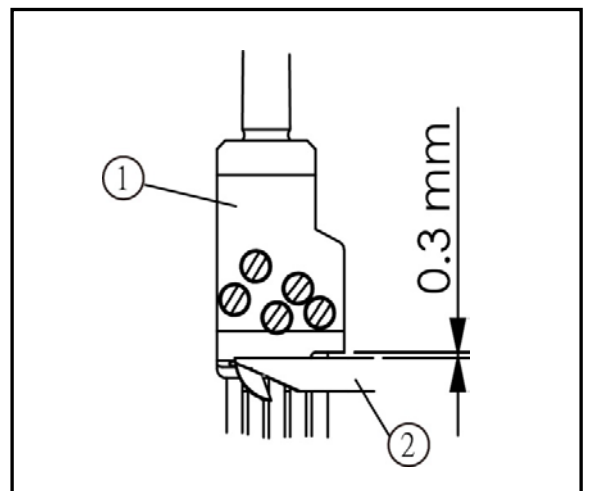

Fig. 9
2. Make sure to keep a clearance between the notch of the needle clamp ① and the top cover thread hook ② at 0.3mm when the needle bar is at the lowest point, and the presser foot is fully raised by pressing foot pedal. (Fig. 9)